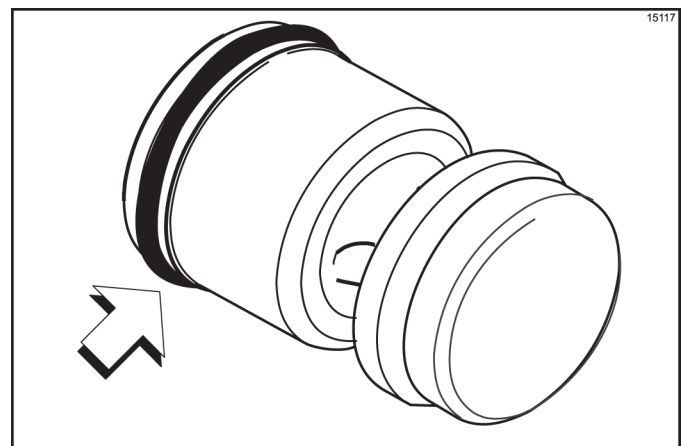

Figure 6-22
2. Assemble the piston. Slide the red O-ring into the groove of the piston. **Do not** lubricate the O-ring. (See Figure 6-22.)